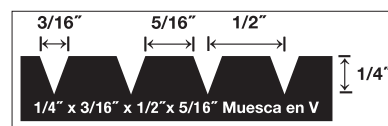

Figura 2
- Llana de 3/16" x 1/4" x 5/16" (5 mm x 6 mm x 8 mm) (Figura 2)